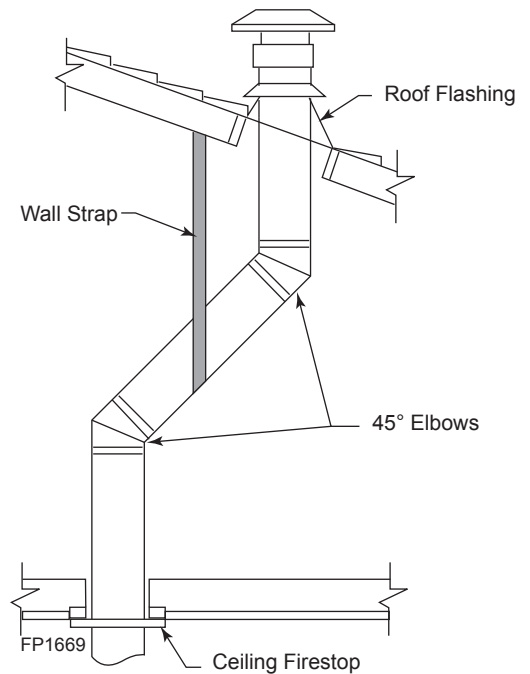

Figure 18 - Offset with Wall Strap and 45° Elbow
1. Determine the route your vertical venting will take. If ceiling joist, roof rafters or other framing will obstruct the venting system, consider an offset. *Figure 18* to avoid cutting load bearing members.
NOTE: If an offset is needed to avoid obstructions, you must support the vent pipe every three (3) feet. Use wall straps for this purpose. See *Figure 18*, *page 17*. Whenever possible, use 45° elbows instead of 90° elbows. The 45° elbow offers less restriction to the flow of the flue gases and intake air.
5. Place the flashing over the pipe section(s) extending through the roof. Secure the base of the flashing to the roof and framing with roofing nails. Be sure roofing material overlaps the top edge of the flashing as shown in *Figure 18*, *page 17*. There must be a 1" clearance from the vent pipe to combustible materials.